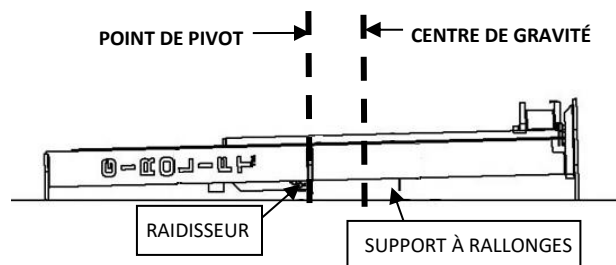

FIGURE 8 : POINT DE PIVOT ET CENTRE DE GRAVITÉ SUR UNE COLONNE AU SOL
- 3.1** À L'AIDE D'UNE SANGLE DE LEVAGE ET D'UN ÉQUIPEMENT DE MANUTENTION SÉCURITAIRE ET ADÉQUAT, AMENER UNE COLONNE À LA FOIS LE PLUS PRÈS POSSIBLE DE SON SITE D'INSTALLATION ; PLACER LA SANGLE DE LEVAGE AU CENTRE DE GRAVITÉ (RÉPARTITION ÉGALE DU POIDS) DE LA COLONNE. VOIR **FIGURE 8**.
- 3.3** DÉPLACER LA SANGLE DE LEVAGE AU POINT DE PIVOT SOUS LE RAIDISSEUR. VOIR **FIGURE 8**.